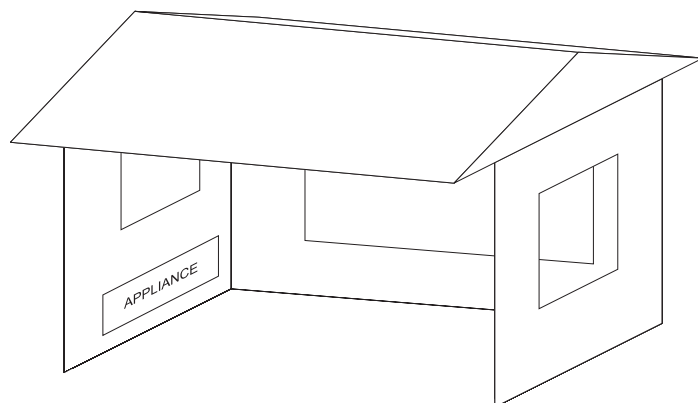

Figure 8
- This partial enclosure includes an overhead cover and three walls, no more than 30% or more of the horizontal periphery (i.e. perimeter) of the enclosure permanently open. These openings cannot be screened or have operable windows or shutters. **See Figure 8.**